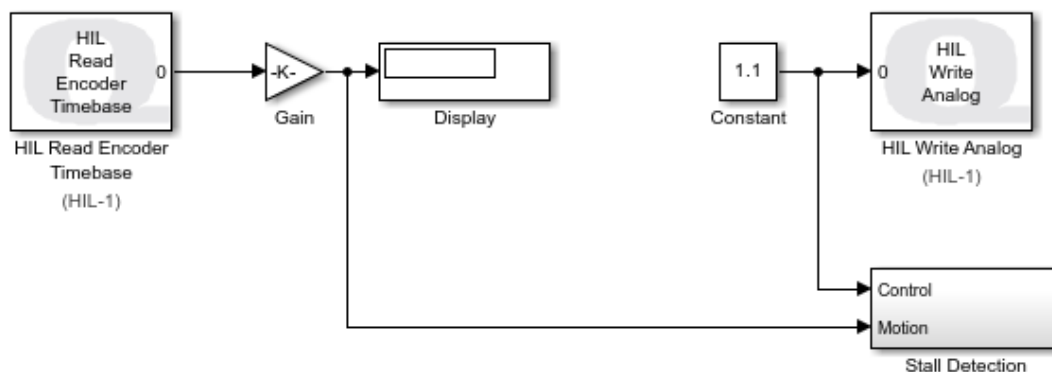
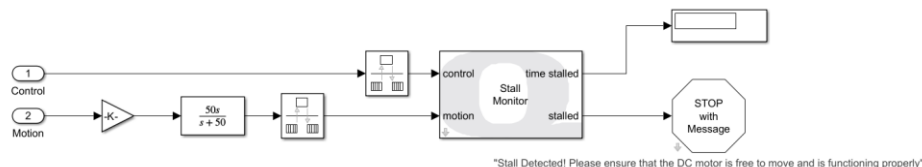

Figure 1. Simulink model used with QUARC to drive motor and read angle on Qube-Servo 3
Figure 4. Stall Detection subsystem
In this lab, we will make a **Simulink** model using **QUARC** blocks to drive the DC motor and then measure its corresponding angle – as shown in Figure 1.
3. Connect the **HIL Read Encoder Timebase** block as shown in figure 1, the HIL Write Analog should be missing.
2. Connect the **Constant** and **HIL Write Analog** blocks together, as shown in Figure 1. **Note:** There is a **Stall Detection** subsystem in Figure 1 and Figure 4. This block will monitor the applied voltage and speed of the DC motor to ensure that it does not stall. If the motor is motionless for more than 20 seconds with an applied voltage of over ± 5 V, the simulation is halted to prevent the Qube-Servo 3 from overheating and subsequent potential damage to the motor.